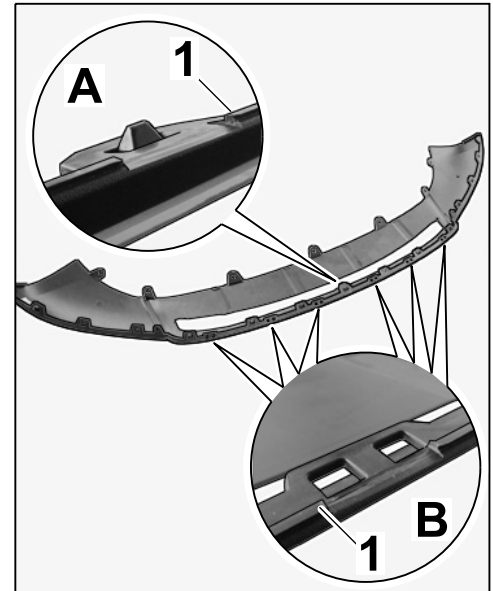

Figure 7
2.1.2 Remove edge of front spoiler close to the six mounting points (⇒ *Figure 7-inset A-*) and centre of front spoiler (⇒ *Figure 7-B -*) using a Stanley knife.